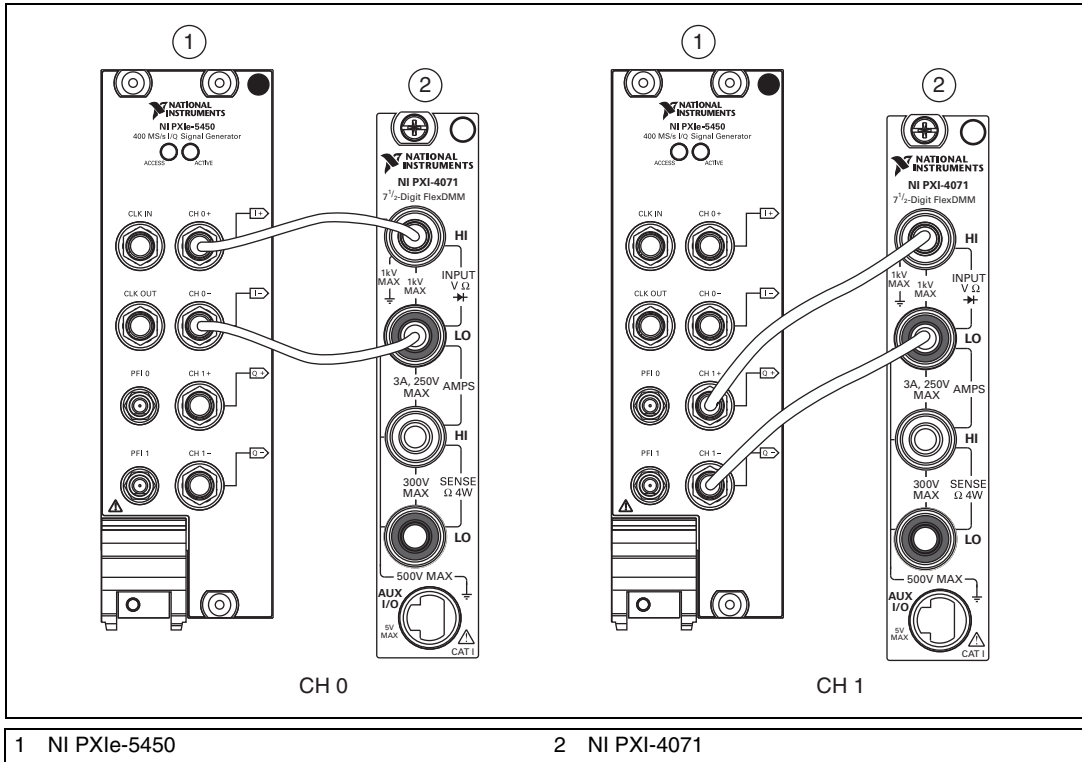

Figure 2. DC Voltage Amplitude Absolute Accuracy Verification Connections for the NI 5450
1. Connect the DMM to the CH 0 output terminals of the NI 5450 as shown in Figure 2.
10. Connect the DMM to the NI 5450 as shown in Figure 2 for CH 1.
1. Connect the DMM to the CH 0 output terminals of the NI 5450 as shown in Figure 2 for CH 0.
- Connect the DMM to the CH 1 output terminals of the NI 5450 as shown in Figure 2 for CH 1.
1. Connect the DMM to the NI 5450 as shown in Figure 2 for CH 0.